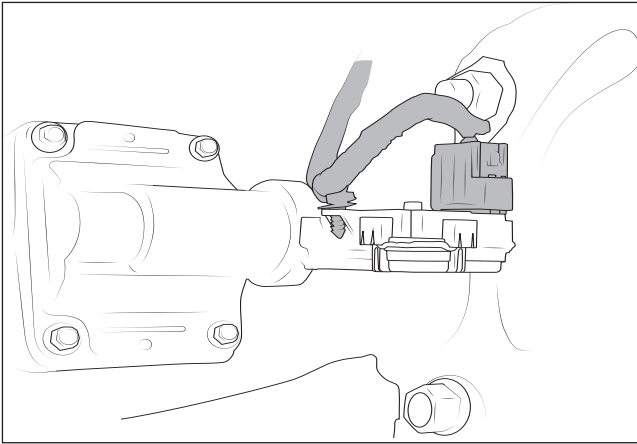

Figure 5
8. Unplug the central axle disconnect and remove the zip tie (fig. 5).